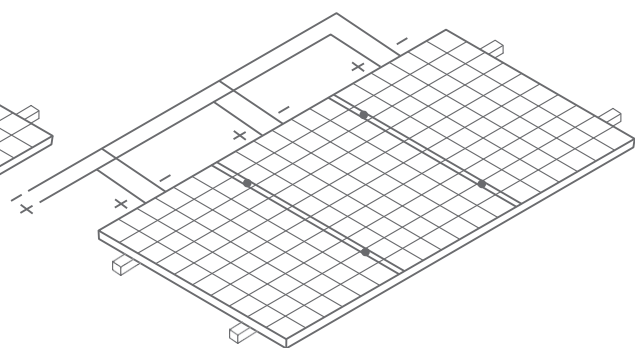

Figure 4
- Select a suitable installation method depending on the load requirements. More detailed information is shown in Figure 4.